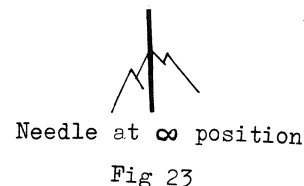

Fig 23
Adjust infinity of lens. (Refer to 8-2.) Turn Focusing wheel (8) to set helicoid at ∞ . View the finder and make sure if the needle is at the center of ∞ . (Fig. 23)